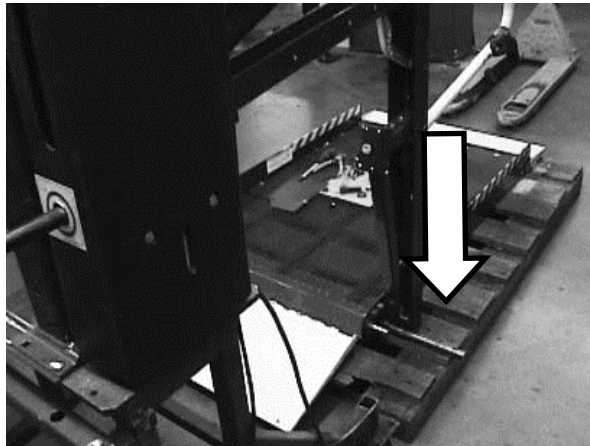

Figure 18. Lower Vertical Arms onto Pallet
2. Refer to **Figure 18**. Open the release valve then lower vertical arms next to platform.